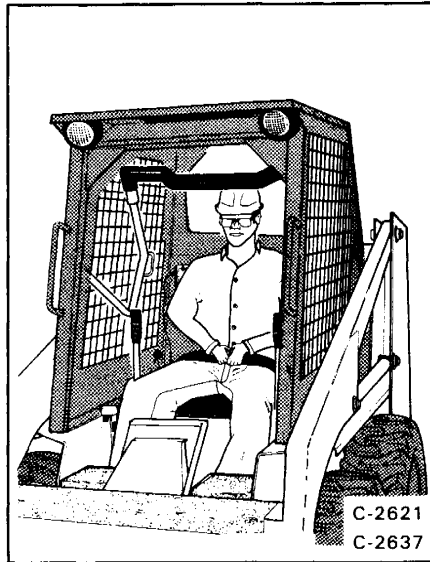
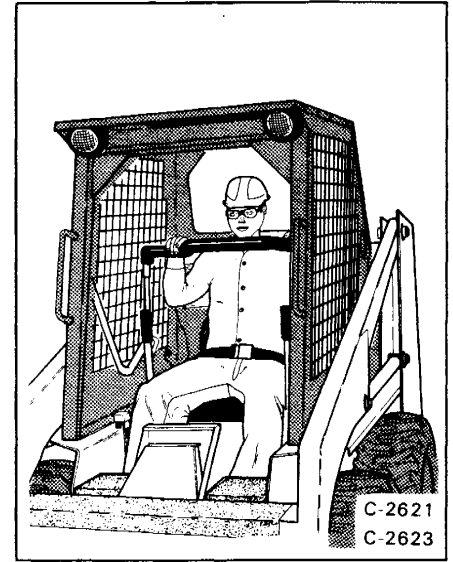

Fig. 24 Fastening Seat Belt
Fig. 25 Lowering Seat Bar
1. Adjust the seat position so that you can reach the controls of the Bobcat loader. Fasten and adjust the seat belt (Fig. 24). Lower the seat bar (Fig. 25). Engage the parking brake.